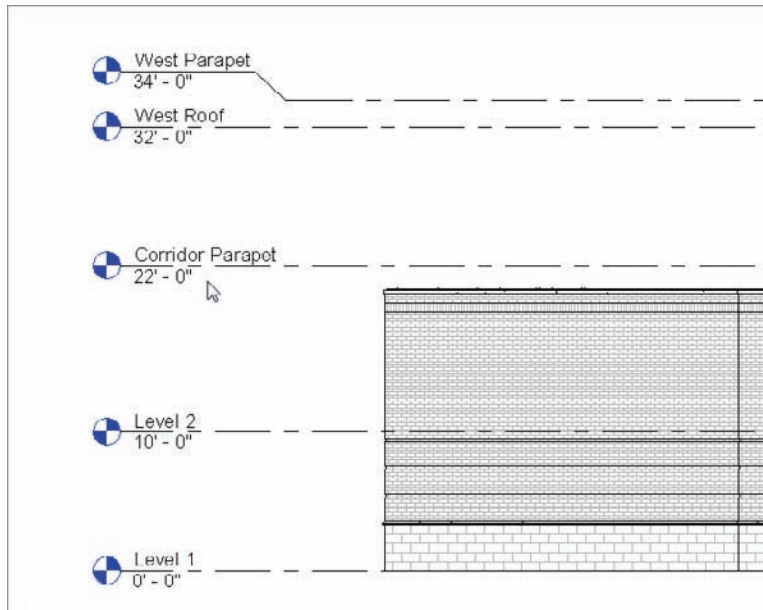

FIGURE 3.28 All of the levels are in place for now.
16. Drag the left side of the line to an area approximately as shown in Figure 3.28.